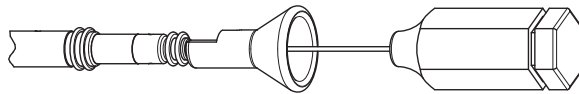

Figure 3. Insert the stylet
3. Insert the chosen stylet through the terminal pin or the stylet guide if using one (Figure 3 Insert the stylet on page 14).